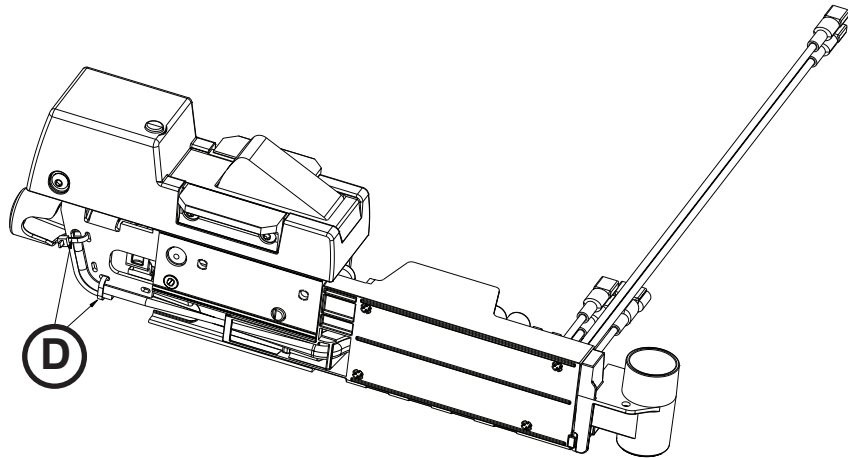

Figure 100
- Using diagonal pliers, cut the cable ties (D) that secure the coil wires to the wire management strap (Figure 100).